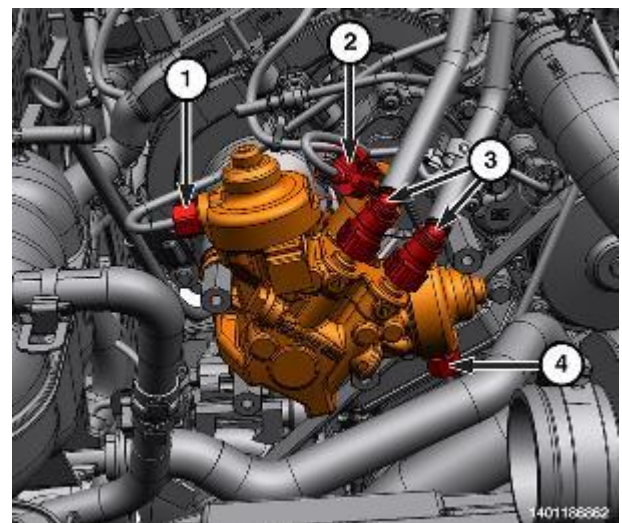

Figure 37 – HPFP Electrical Connector
- 68. Disconnect the fuel injection pump electrical connector (2) (Figure 37).
- 69. Disconnect the low-pressure fuel supply and return lines (3) (Figure 37).
- 70. Unscrew the union nuts for the fuel rail supply tubes (1 and 4) (Figure 37).
- 71. Disconnect the fuel quantity solenoid wire harness connector (2) (Figure 37).
- 85. Connect the fuel injection pump electrical connector (2) (Figure 37).